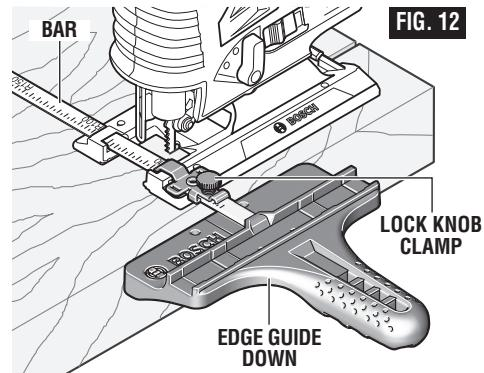

FIG. 12
- The guide fence surface needs to be positioned **ALONGSIDE** the workpiece (Fig. 12).
- Insert jig saw plug into power source, hold the saw firmly, squeeze trigger and slowly push the saw forward (Fig. 12).